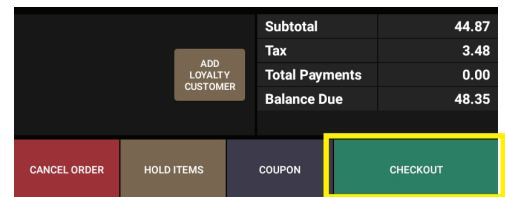

Figure 54
1. Select CHECKOUT (Figure 54).